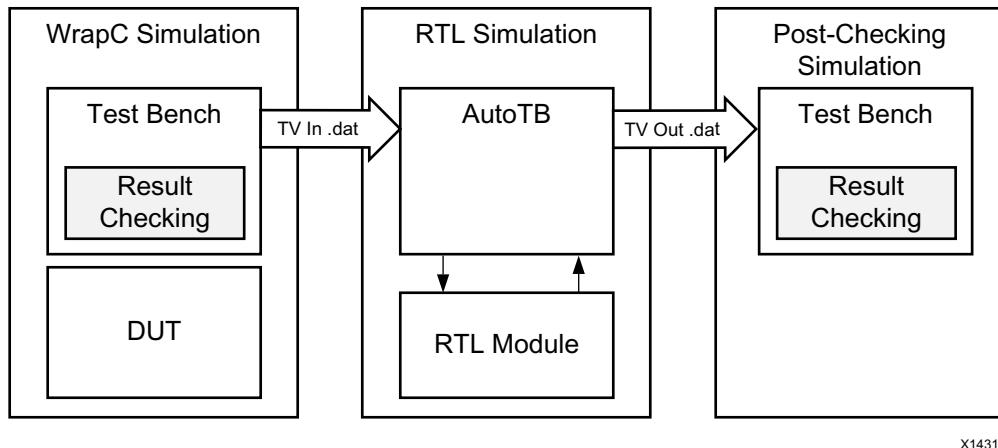

Figure 1-74: RTL Verification Flow
C/RTL co-simulation uses the C test bench to automatically verify the RTL design. The verification process consists of three phases, shown in Figure 1-74.
- Reduce Disk Space: The flow shown Figure 1-74 in saves the results for all transactions before executing RTL simulation. In some cases, this can result in large data files. The `reduce_diskspace` option can be used to execute one transaction at a time and reduce the amount of disk space required for the file. If the function is executed N times in the C test bench, the `reduce_diskspace` option ensure N separate RTL simulations are performed. This causes the simulation to run slower.